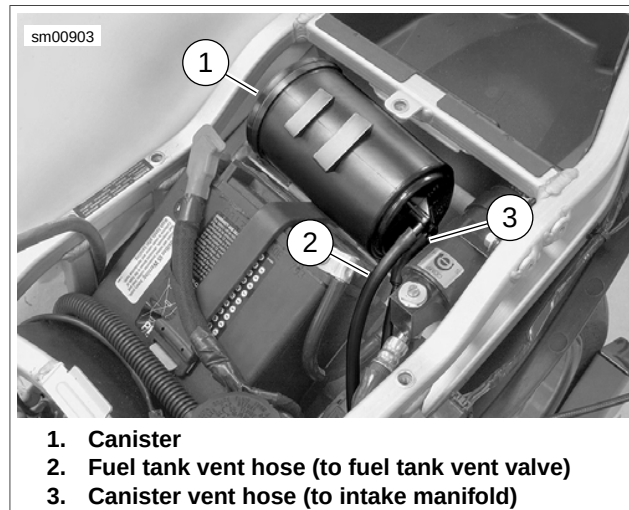
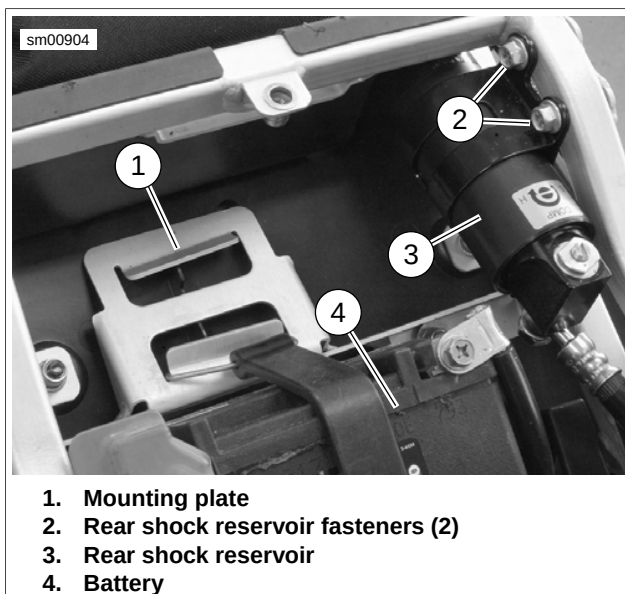

Figure 4-49. Carbon Canister
Figure 4-50. Carbon Canister Mounting
2. See Figure 4-49. If necessary, label fuel tank vent hose (2) at canister fitting and remove.
2. See Figure 4-49. The canister (1) mounts behind the battery in the tail section.
3. Label and disconnect the fuel tank vent hose (2) and canister vent hose (3) from the canister.
4. See Figure 4-50. Remove rear shock absorber reservoir fasteners (2). Move reservoir assembly away from canister.
5. Slide canister towards left side of vehicle to disengage from mounting plate (1).
2. See Figure 4-50. Attach fuel tank vent hose (2) to canister if disconnected.
1. See Figure 4-50. Slide canister into position on canister mounting plate (1).
- Place rear shock reservoir assembly (3) into position.
- See Figure 4-50. Install reservoir mounting fasteners (2). Tighten fasteners to 120-144 in-lbs (13.6-16.3 Nm).
- See Figure 4-50. Connect two hoses to the canister. Make sure to push hoses all the way on to carbon canister fittings.
- See Figure 4-50. Attach fuel tank vent hose (2) to canister if disconnected.